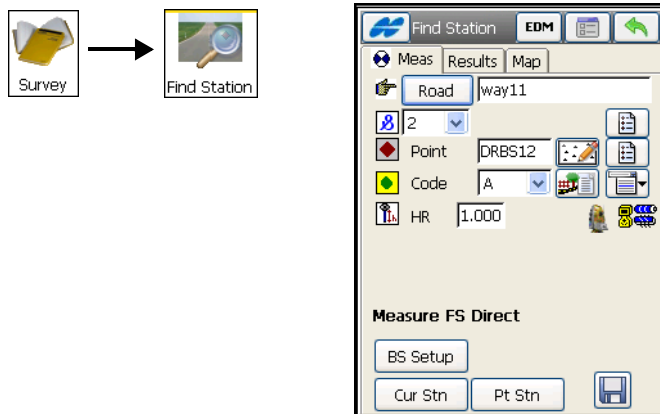

Figure 8-54. Find Station – Measurement Tab
1. To start working, tap **Survey ► Find Station** (see Figure 8-54).
3. Enter the road, the name and the code of the point and the height of the rod (target) (Figure 8-54 on page 8-54).